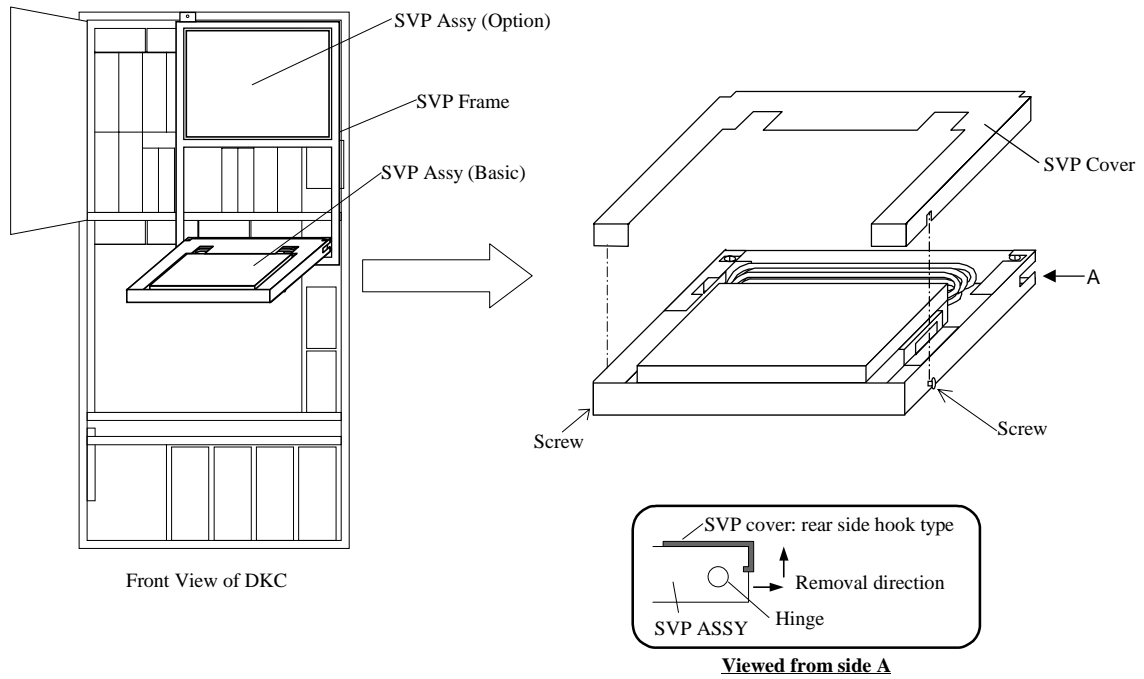

Fig. 4.9-10 Removing SVP cover
- c. Attach the SVP cover. (See Fig. 4.9-10.)